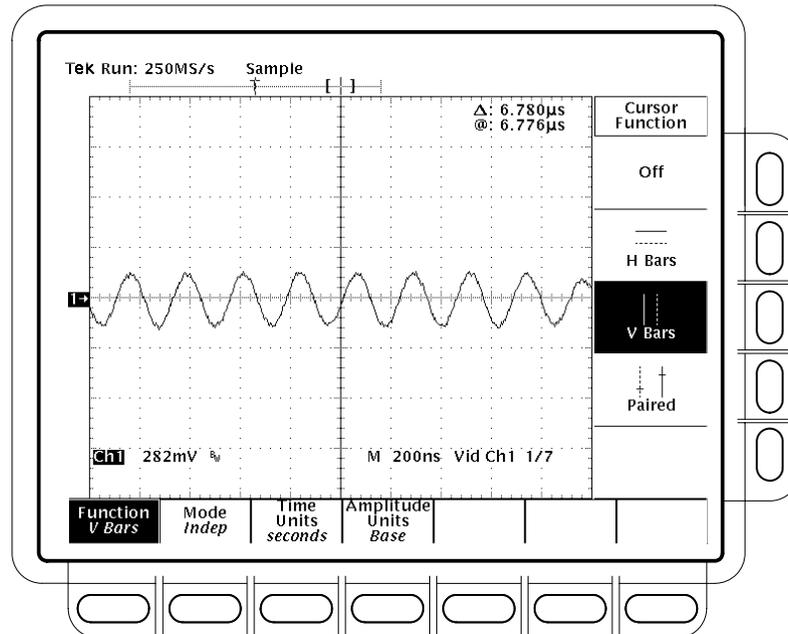

Figure 4-37: Line count accuracy correct result waveform
- Verify that the cursor is positioned on a positive slope of the burst signal. See Figure 4-37.